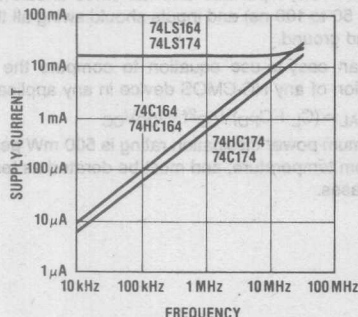

FIGURE 8. Supply Current vs. Frequency
In Figure 8, which is a comparison of equivalent flip-flops (174) and shift registers (164) from the different logic families, the power cross-over frequency again occurs at about 20 MHz.